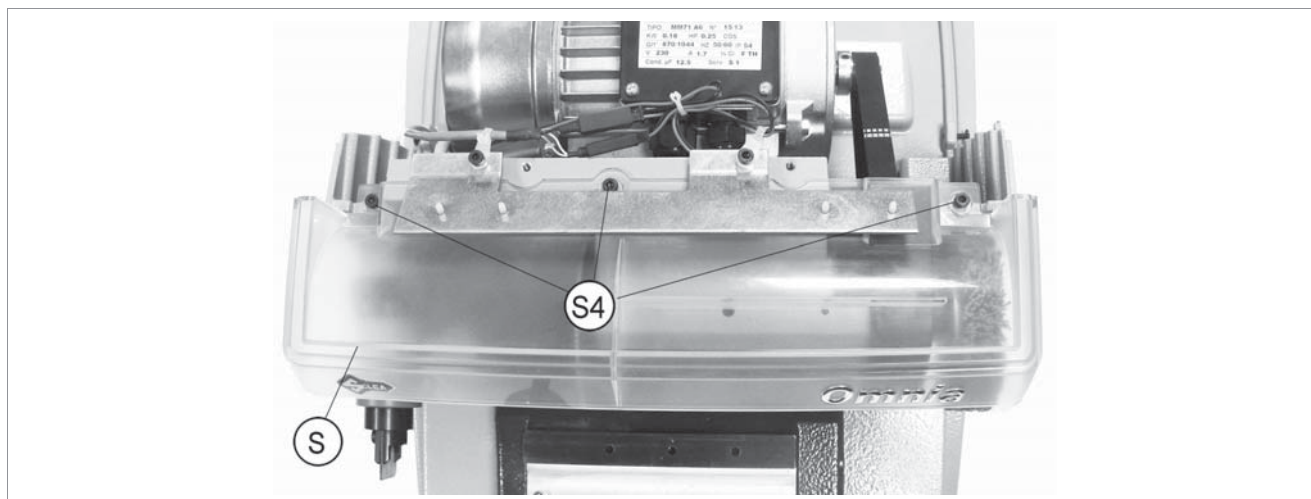

Fig.77
- 3) Loosen the 3 screws (S4) and remove the Plexiglas shield (S) (Fig.77).
- 4) Place the new shield (S) in position and secure with the screws (S4).
- 6) Loosen the 3 screws (S4) and remove the Plexiglas shield (Fig.77).